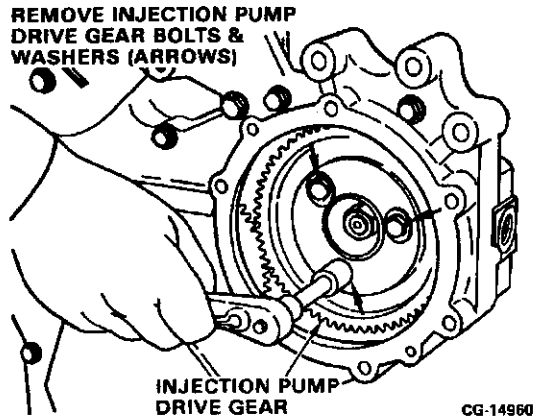

Figure 11.68. Remove Injection Pump Drive Gear Bolts
12. Remove the injection pump drive gear bolts and hardened washers. Refer to Figure 11.68.